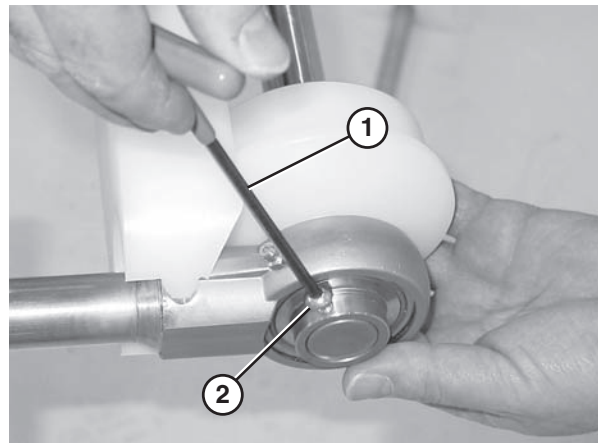

Figure 74
4. Use a hex wrench (**Figure 74, item 1**) to loosen the bearing shaft assembly fasteners (**Figure 74, item 2**).